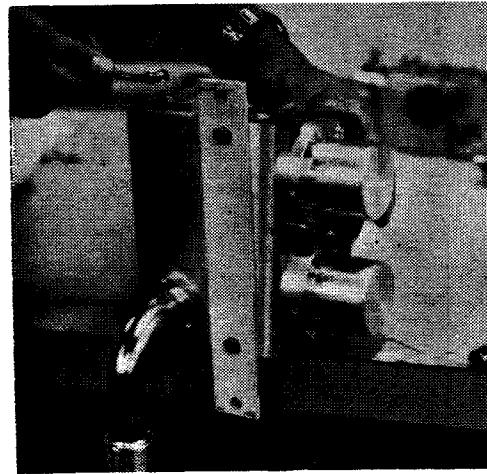

Figure 6-19. Removing Cover Plate from Inverted Valve Block
1. Remove screws holding vent valve (4) and calibrating leak (17), then remove the gross leak valve (33), vent valve (with its O-ring retainer), calibrating leak and thermocouple gauge (11) from the valve block by pulling straight out. Set them aside.
2. With the valve block inverted, remove the cover plate (28) from the bottom (Figure 6-19). Clean it, wipe the O-ring and set them aside.
3. Remove test port manifold (24).